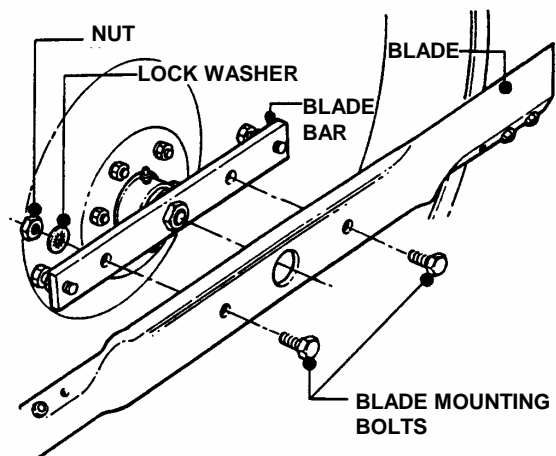

FIGURE 4.22
5. Remove blade mounting bolts, nuts and washers. See Figure 4.22.